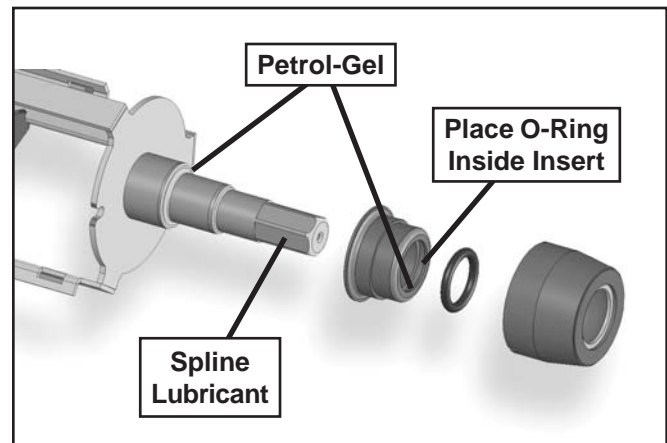

Figure 3-5 Rear Seal Assembly
- C. Install the stainless steel rear seal adapter into the rear seal dry (without lubricant). Lubricate the inside surface of the rear seal adapter, including the adapter o-ring, and install it onto the auger shaft. DO NOT lubricate the outside of the rear auger seal (Fig. 3-5).